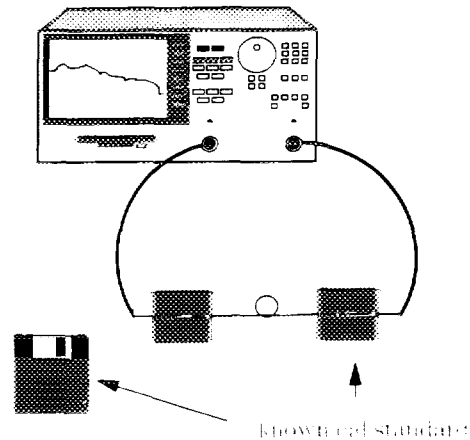

Figure 3-4. Phase Distortion CAL Test Setup
- 1 Connect the system as shown in Figure 3-4.